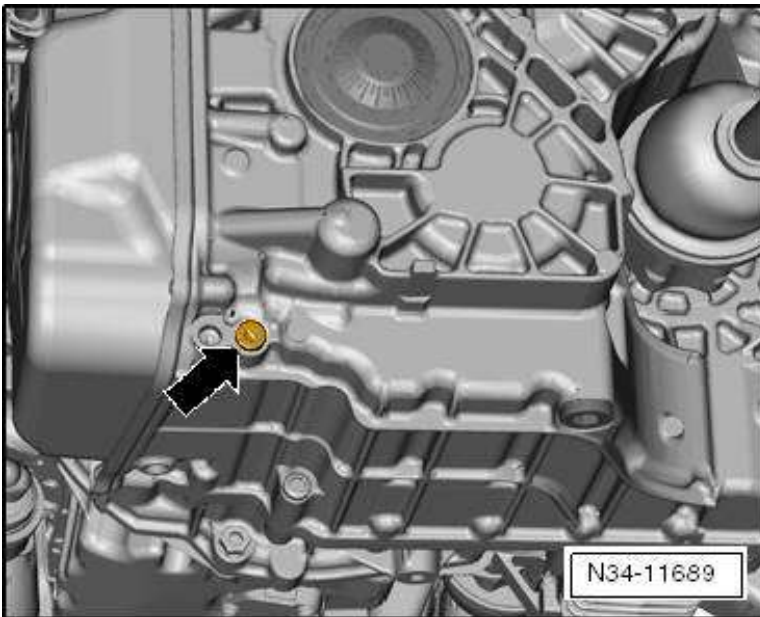

Figure 2. Mechatronic unit oil drain plug.
- Unscrew oil drain plug on mechatronic unit (see figure 2, black arrow) according to the Workshop Manual.